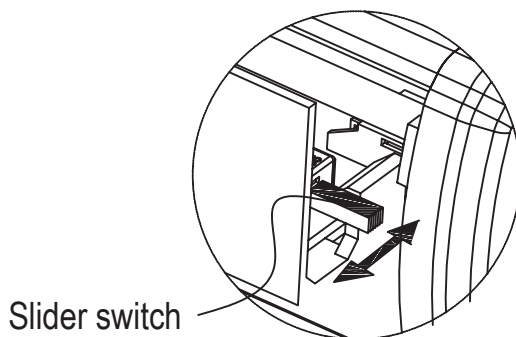

Fig. 1
1. Open front cover by blade screw driver, attach battery connector on PCBA (With Battery units only), disassemble J-box cover, punch out wire hole. Secure J-box on the top of fixture using (2) TM4*8 screws (supplied). Feed the AC wires out of J-box cover. Reattach J-box cover and front cover. (Fig. 1)